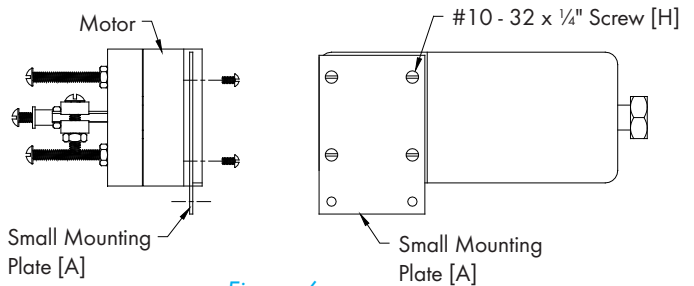

Figure 6
Fasten Small Motor Mounting Plate [A] to Motor using (4) 1/4" Screw [H]. See Figure 6.